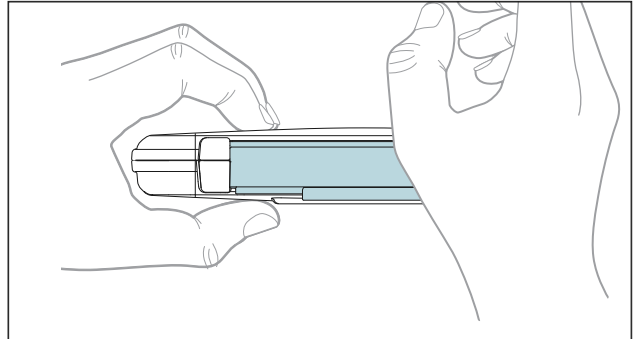

Figure 8: Shut the latch
5. **Firmly push the bottom of the latch inward to snap into place** (Figure 8).